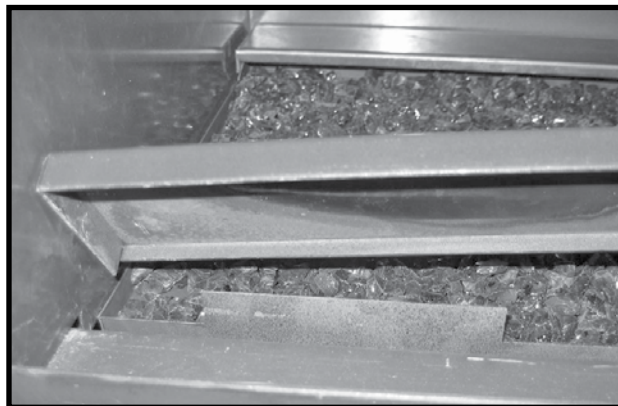
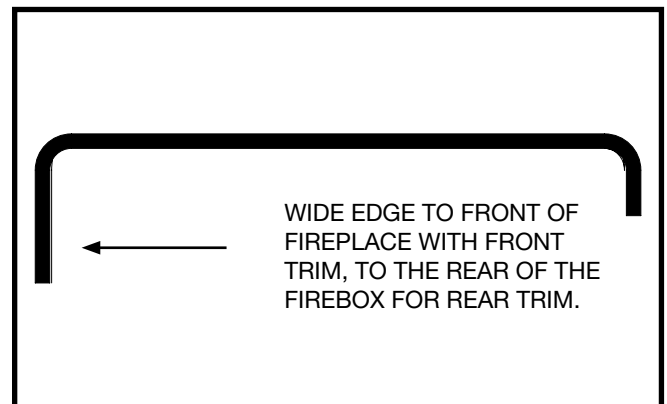

Figure 10: Positioning front trim.
Figure 11: Front trim.
7. Place the front porcelain trim so that it rests on the front shelf of the firebox and is snug against the firebox frame (Figure 10). Ensure that the wide edge of the trim is against the firebox frame (Figure 11).